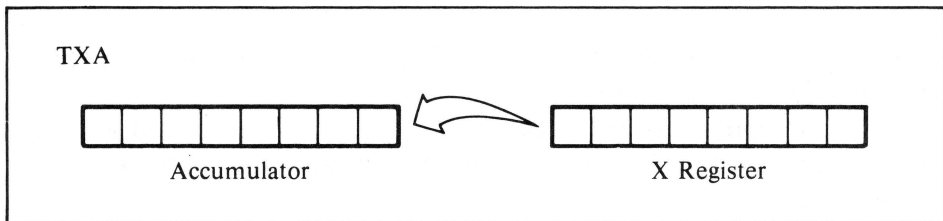

Figure 8-6. Transfer from X register to accumulator
- TXA — Transfers the contents of the X register to the accumulator (see Figure 8-6).